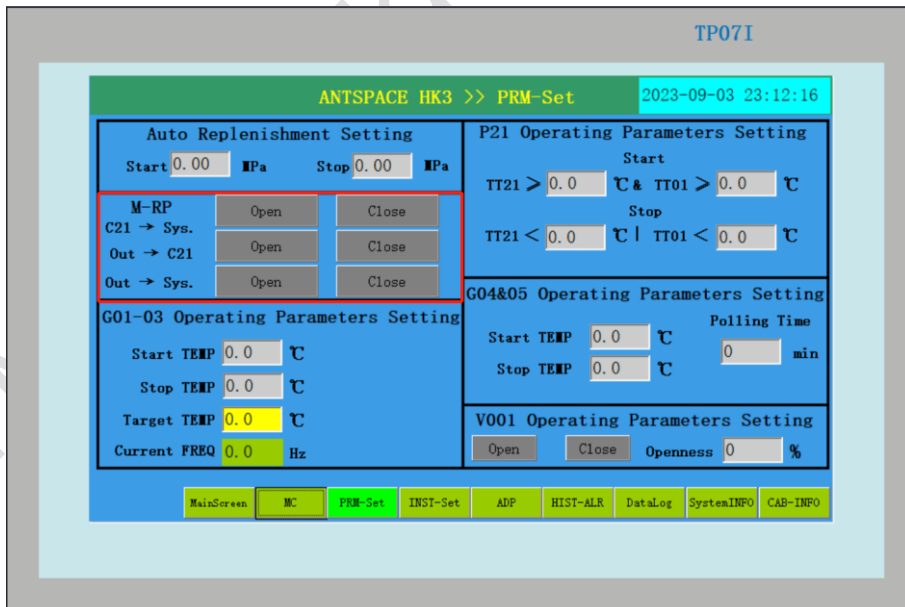

Figure 7.17 Liquid filling system interface.
- d. Close solenoid valve V202, switch to manual mode on the touch screen, and open the "Manual Liquid Replenishment" mode "External → System" of the liquid filling system, which means adding liquid to the system. Open "External → C21", which means adding liquid to the water tank C21 externally, as shown in Figure 7.17.